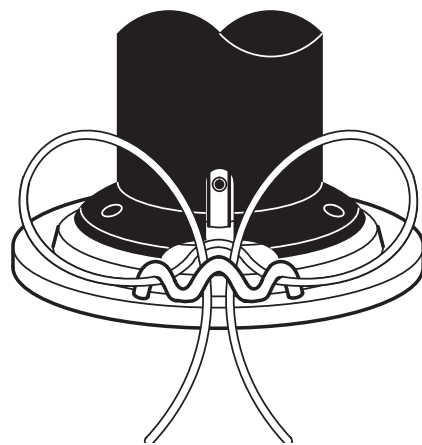

Figure 16
5. Take the ends of the line, cross over the line retainer, and thread the ends through the center hole. (See Figure 16)